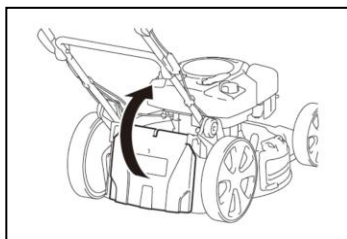

Fig. 7A
6.1.1 Lift the rear discharge guard, assemble the grass catcher. Fig. 7A/ 7B